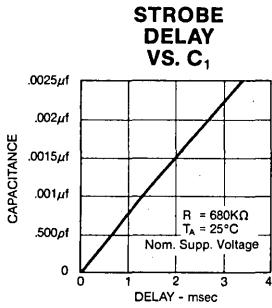

Fig. 5
* R1 (680KΩ), C1 (0.01μf) provide approx. 1.5 ms delay (see figure 5)